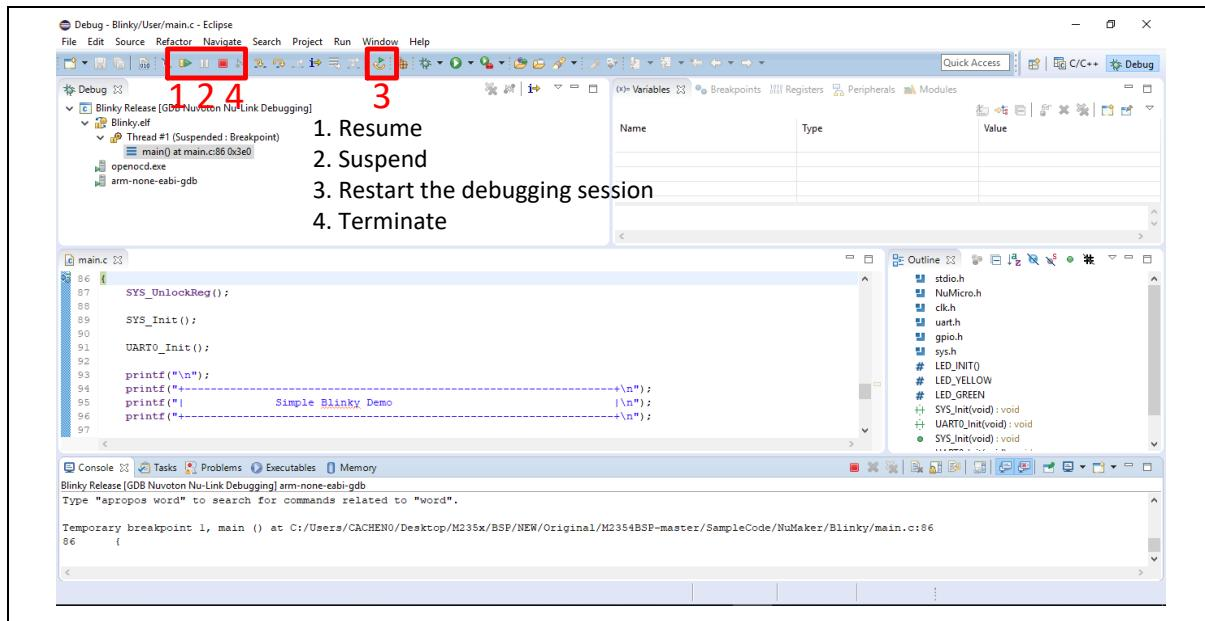
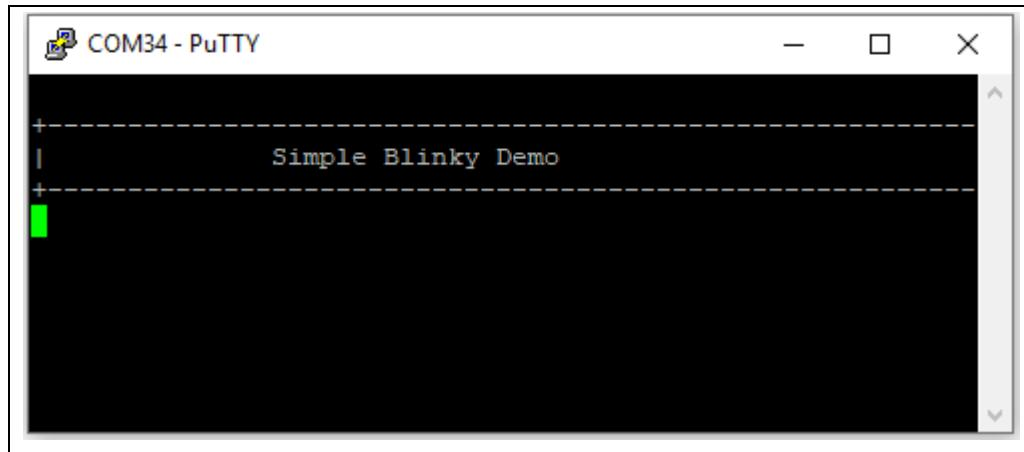

Figure 5-26 NuEclipse Debug Mode
Figure 5-27 Debug Message on Serial Port Terminal Windows
6. Figure 5-26 shows the debug mode under NuEclipse. Click “Resume” and the debug message will be printed out as shown in Figure 5-27. User can debug the project under debug mode by checking source code, assembly language, peripherals’ registers, and setting breakpoint, step run, value monitor, etc. For more information about how to use NuEclipse, please refer to the NuEclipse User Manual.